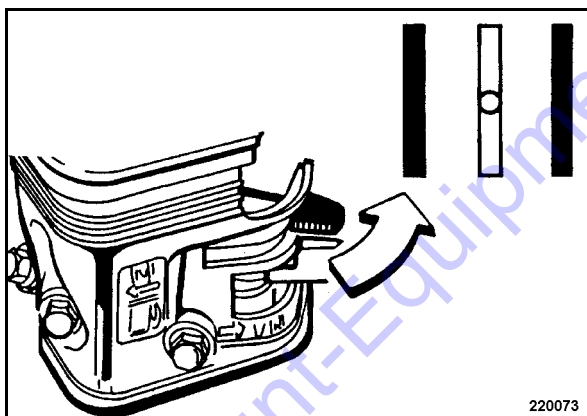

Fig. 23
- As the engine warms up open the lever (Fig. 23) of the choke bit by bit.